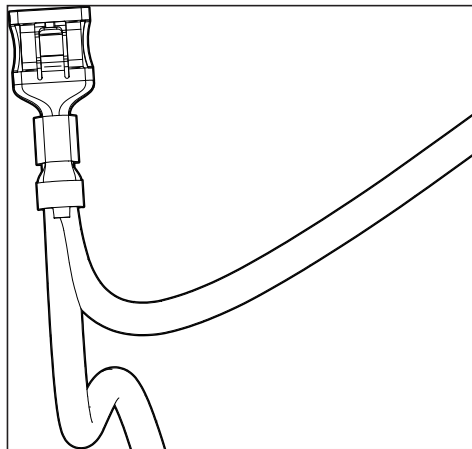

Figure 12
12. Insert and crimp the stripped wires from steps 10 and 11 into the 12015870 terminal (see Figure 12).